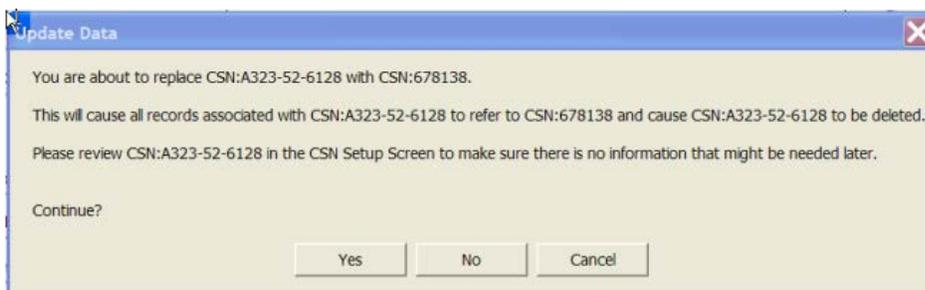

Figure 109. Update Data
- (1). Select the CSN on the right (the wrong one) and the one on the left (the correct one) and press move into CSN (Figure 109).